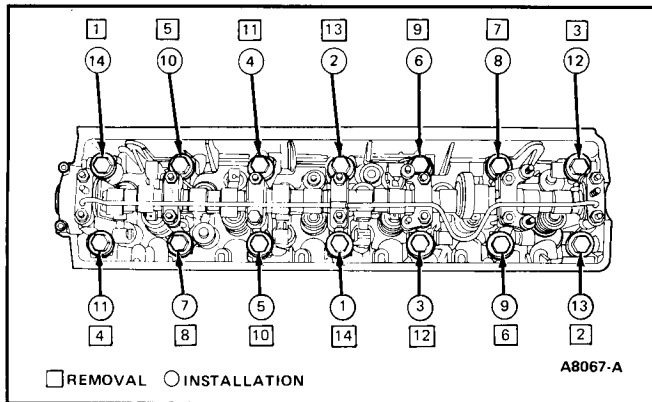

FIG. 25 Cylinder Head Bolt Removal Order
20. Loosen cylinder head bolts in order shown in the squares in Fig. 25, and remove cylinder head.
7. Install and tighten cylinder head bolts, in sequence shown in Fig. 25, to 50-60 N·m (36-43 lb-ft). Wait 15 minutes and tighten bolts, in sequence shown in Fig. 25 to 90-95 N·m (65-69 lb-ft).